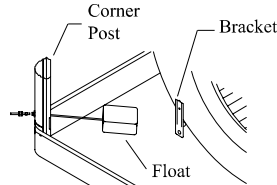
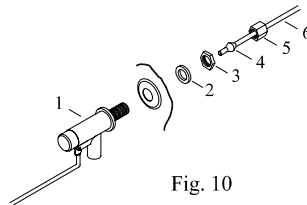

Fig. 9
Fig. 10
- **Install float and attach water line to float.** The float may be installed in either the corner post or bracket (see Fig. 9). If you have model 3000DD/N31D then the float should be mounted to the bracket. Refer to figure 10 for installation instructions. Insert the float (1) thru the hole in the corner post or bracket. Install the washer (2) and nut (3). Tighten to keep the float from turning. Place the nut (5) and ferrule (4) on the water supply line. Connect to float fitting and tighten until water tight.